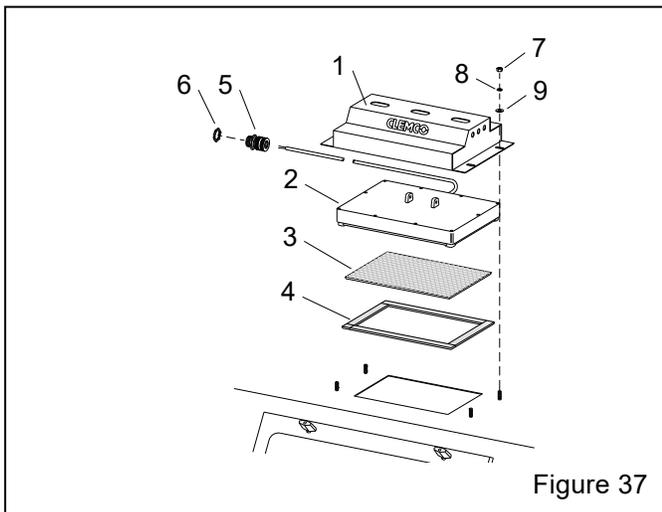

Figure 37
**9.6 LED Light Assembly – Figure 37**